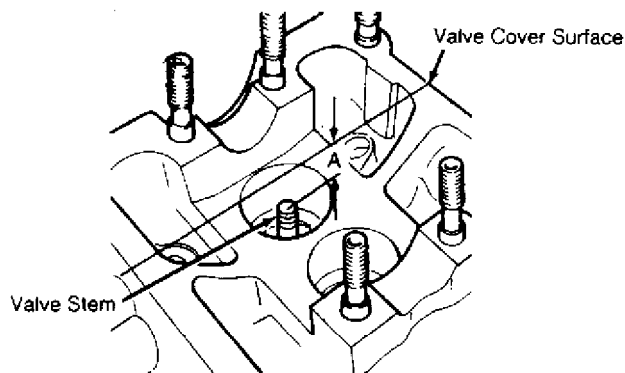

Fig. 14: Measuring For Refacing Dimension
1) Check valve seats prior to any other cylinder head service. If valve seats are less than specifications, cylinder head must be replaced. Insert the valve and hold firmly against the valve seat. Measure distance of valve stem tip to valve cover mounting surface. See Fig. 14.